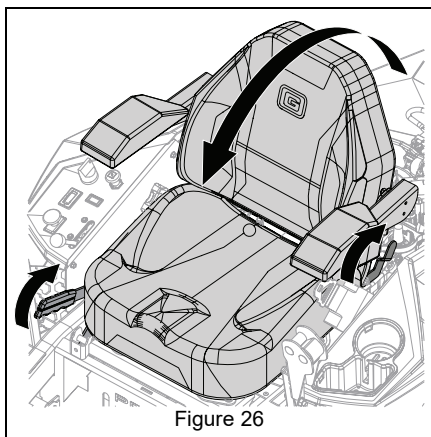

Figure 26
7. *Models 991280, 991282, 991284, 991286, 991288, 991290:* Pull seat latch and rotate seat forward. See Figure 26.